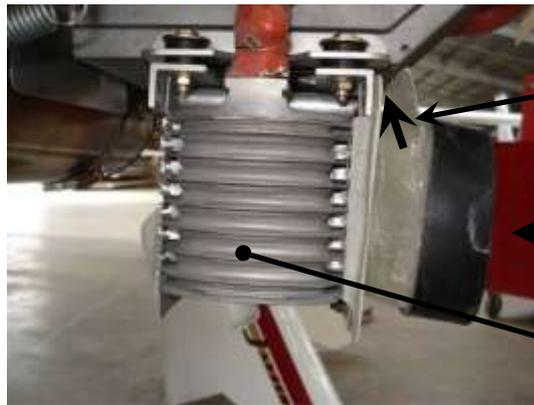

Figure 53. Air Dam Installation
- Before installation the front air dams need to be cut to size. Take the length of glass fibre sheet with the curved edge, hold it against the rear of the duct inlet with the curve towards the top rear of the duct and mark around the bottom of the duct then cut to shape. Figure 53 refers.